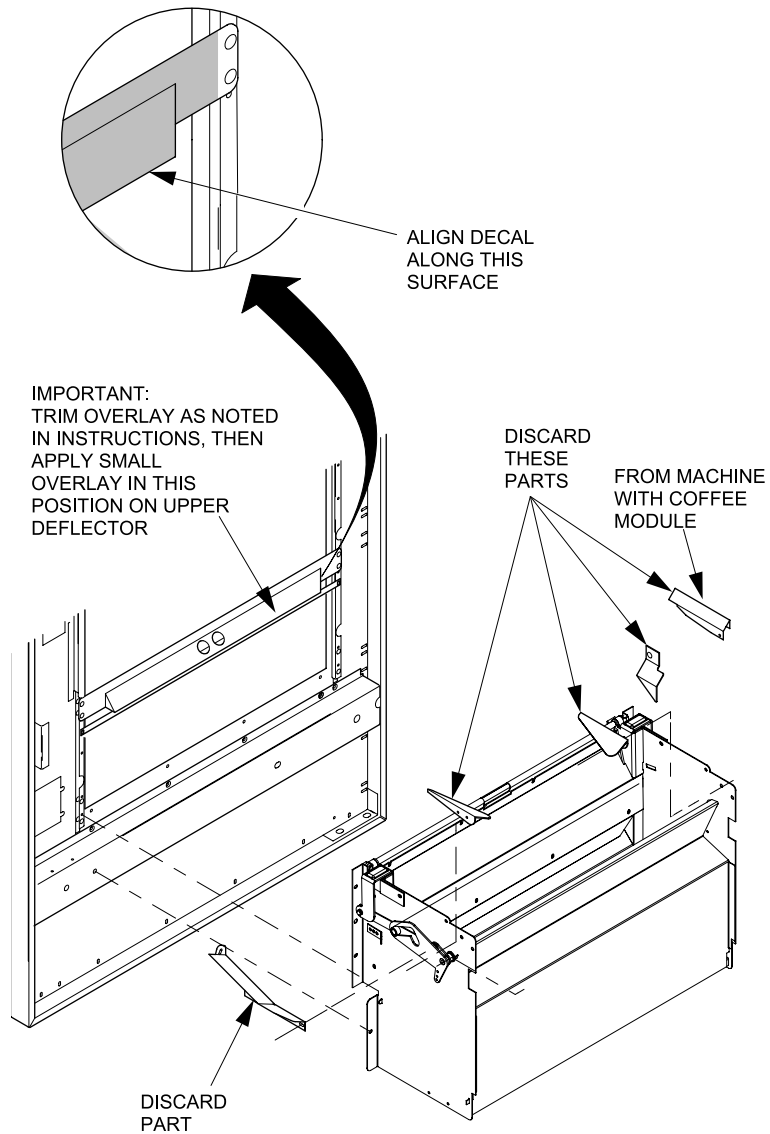

Figure 1
2. Remove and discard all deflectors as shown in Figure 1. Thoroughly clean the shaded area shown with the alcohol wipes provided. After removing all grease and dirt on this part, apply the black overlay to the area as shown in the illustration. Cut the overlay to length along the clear lines according to the width of your delivery pan.